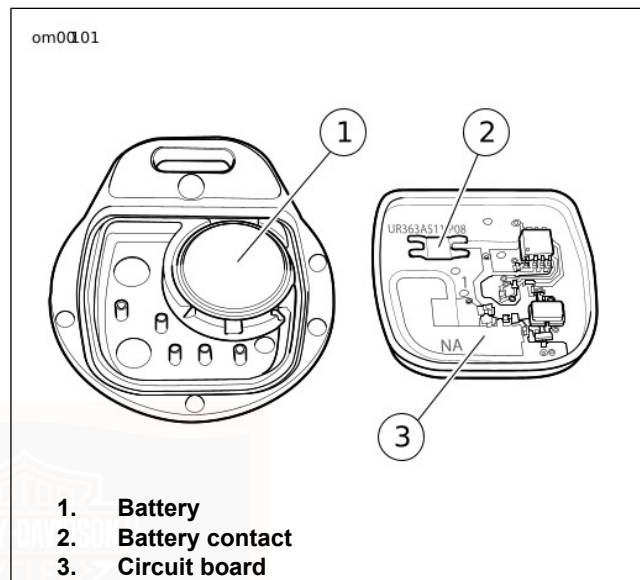

Figure 40. Key Fob Battery Replacement
2. See Figure 40. Remove the old battery and discard.